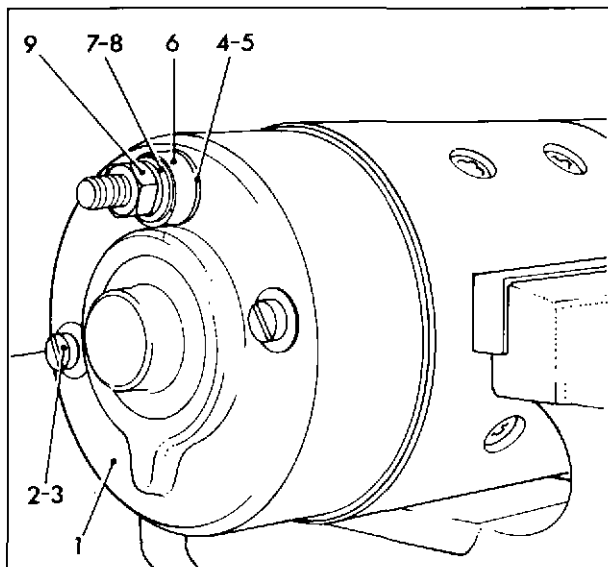

Fig. 28 Replacing commutator end shield cover
7. Slide bush (7) over the return terminal (8) and press fully home.
8. Fit insulating bush (9), plain washer (10), shake-proof washer (11) and screw (12); tighten the screw to a torque value of 1.69 to 2.03 Nm (15 to 18 lbf. inch). Pull on the return terminal (8) and tighten the brush screws (13) through the access holes in the commutator end shield to a torque value of 1.69 to 2.03 Nm (15 to 18 lbf. inch).
9. Remove both through bolts and fit the felt washer (14) and seal (15). Place the commutator end shield cover (1) fig. 28 in position, refit both through bolts (2) with sealing washers (3) and tighten to a torque value of 12.9 to 13.6 Nm (9.5 to 10 lbf. ft.).
10. Fit the thin sealing washer (4), rubber seal (5), seal locator (6), plain washer (7), spring washer (8) and nut (9) on the return terminal; tighten to